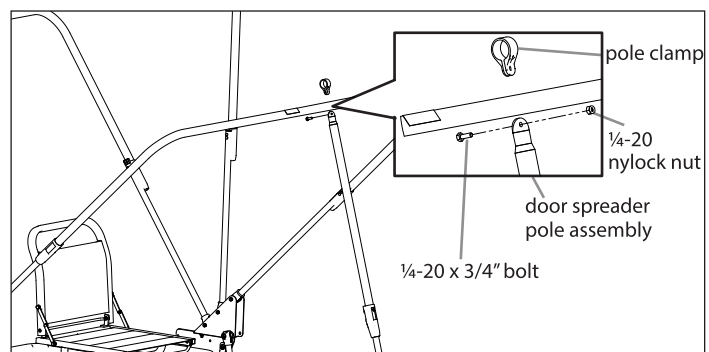

FIGURE 11
17. Attach the door spreader pole assembly (15702) using a 1/4-20 x 3/4" bolt and 1/4-20 nylock nut. To attach the spreader poles the hardware should all be 1/4-20 x 3/4" bolts and 1/4-20 nylock nuts. This hardware is already attached to the assembly and will need to be removed for proper installation. Push the pole clamp (15705) onto the front upper cross brace and reassemble (15702), the reassembly will fasten the door spreader pole to the front upper cross brace. After assembly fully extend the door spreader pole and clip to the lower cross brace. The front upper cross brace should now be self-supporting. **SEE FIGURE 11**